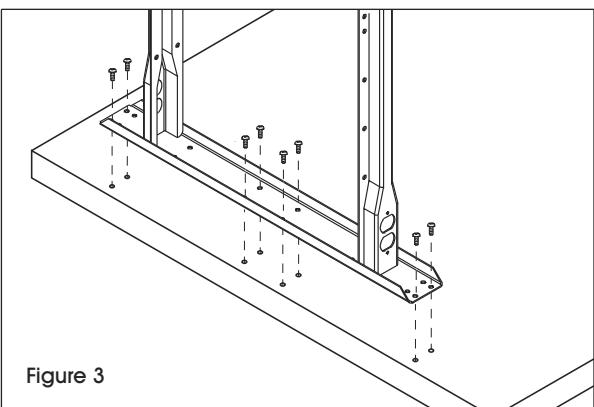

Figure 3
1. Using 32 wood screws, attach legs to the under side of the tabletop (5) through pre-drilled holes. (See Figure 3)